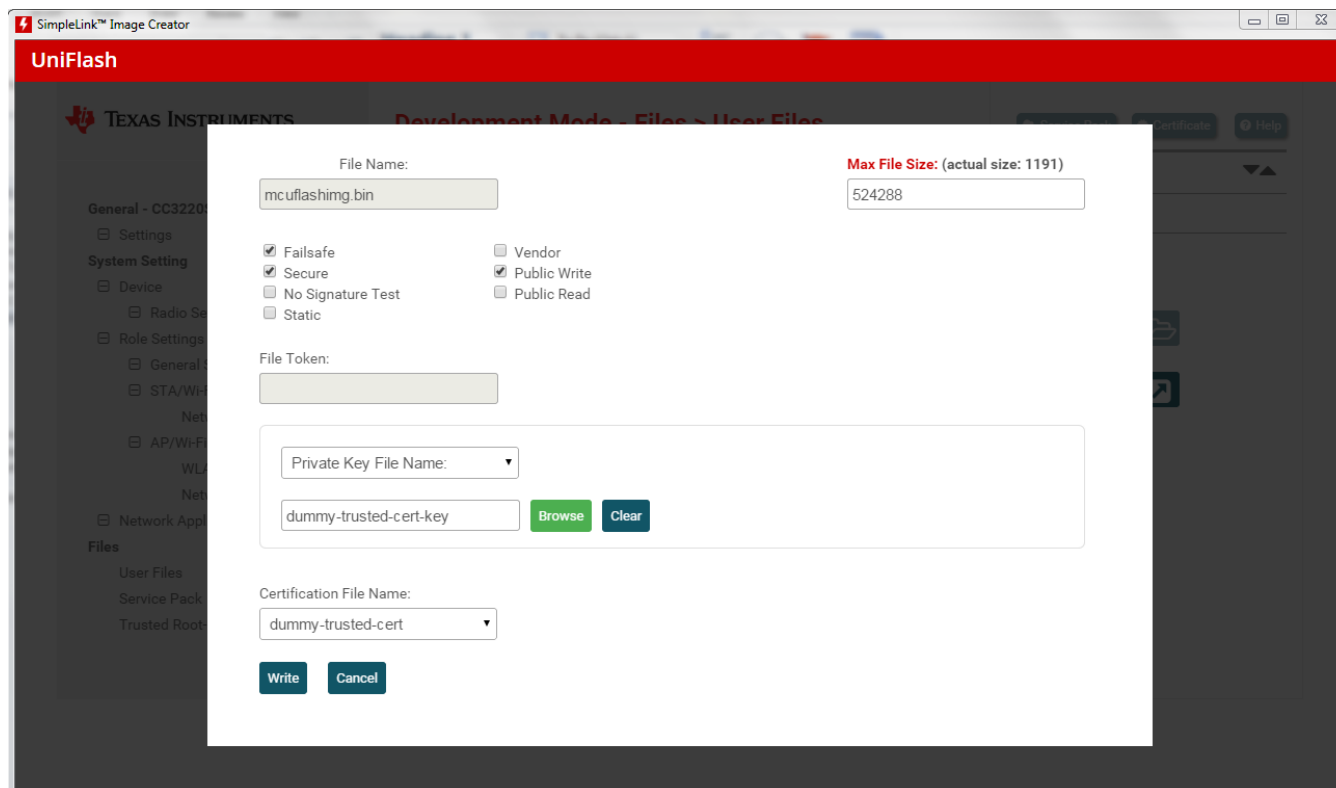

Figure 2-14. Select Certificate Filename
- Select Private Key File Name from the drop-down menu and browse the dummy-trusted-cert-key file available at `<sdk-installation>\tools\cc32xx_tools\certificate-playground`. Select the available certificate filename from the Certification File Name drop-down menu, as shown in Figure 2-14, and click Write.